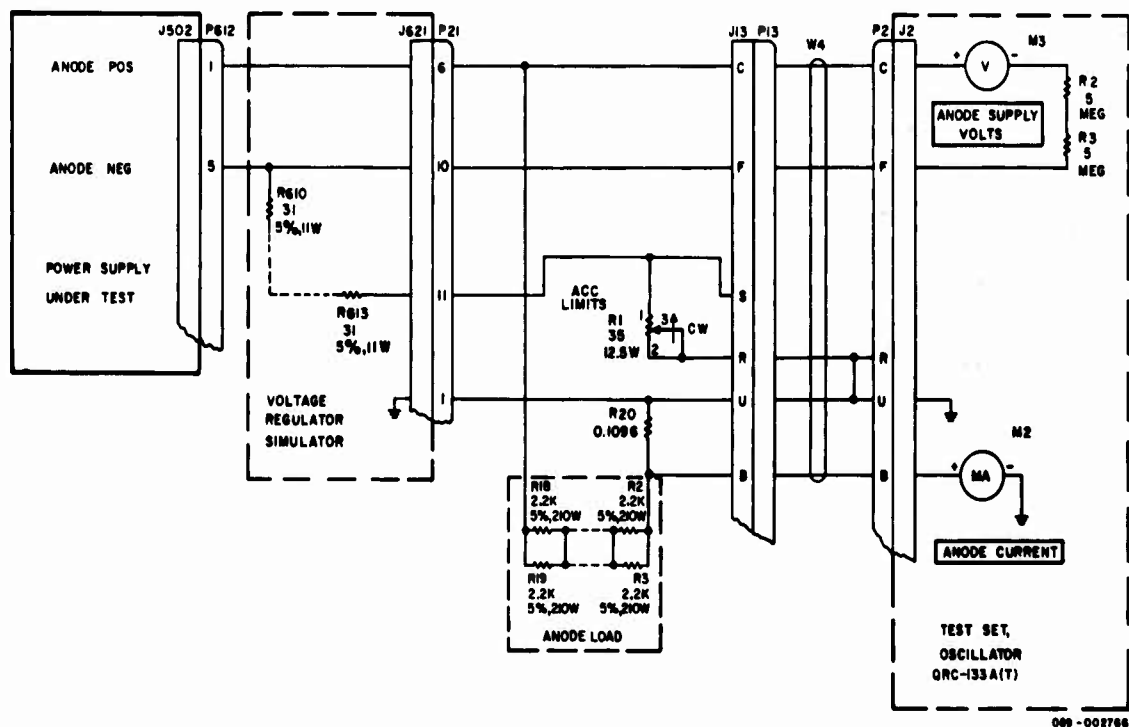

Figure 1-21. Anode Supply Voltage and Current Test Circuit.
1-92. ANODE SUPPLY VOLTAGE AND CURRENT TEST. Figure 1-21 is a simplified schematic diagram of the circuit for testing the anode power supply voltage and current. ANODE SUPPLY VOLTS meter M3 of the Test Set, Oscillator QRC-133A(T) is placed across